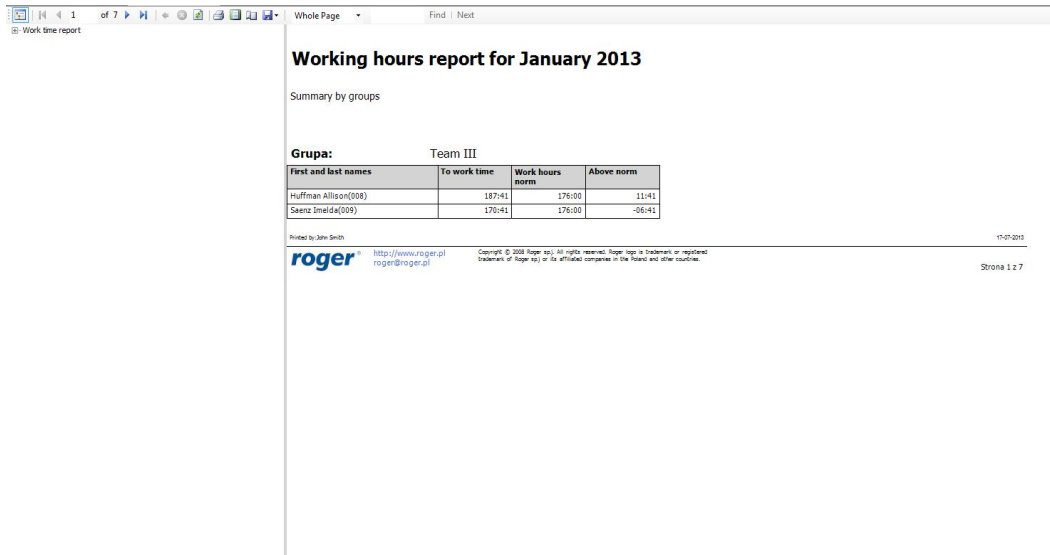

Figure 27. First attempt at creating report
4. Click **PRINT** button. Report shown in Figure 27 will display.